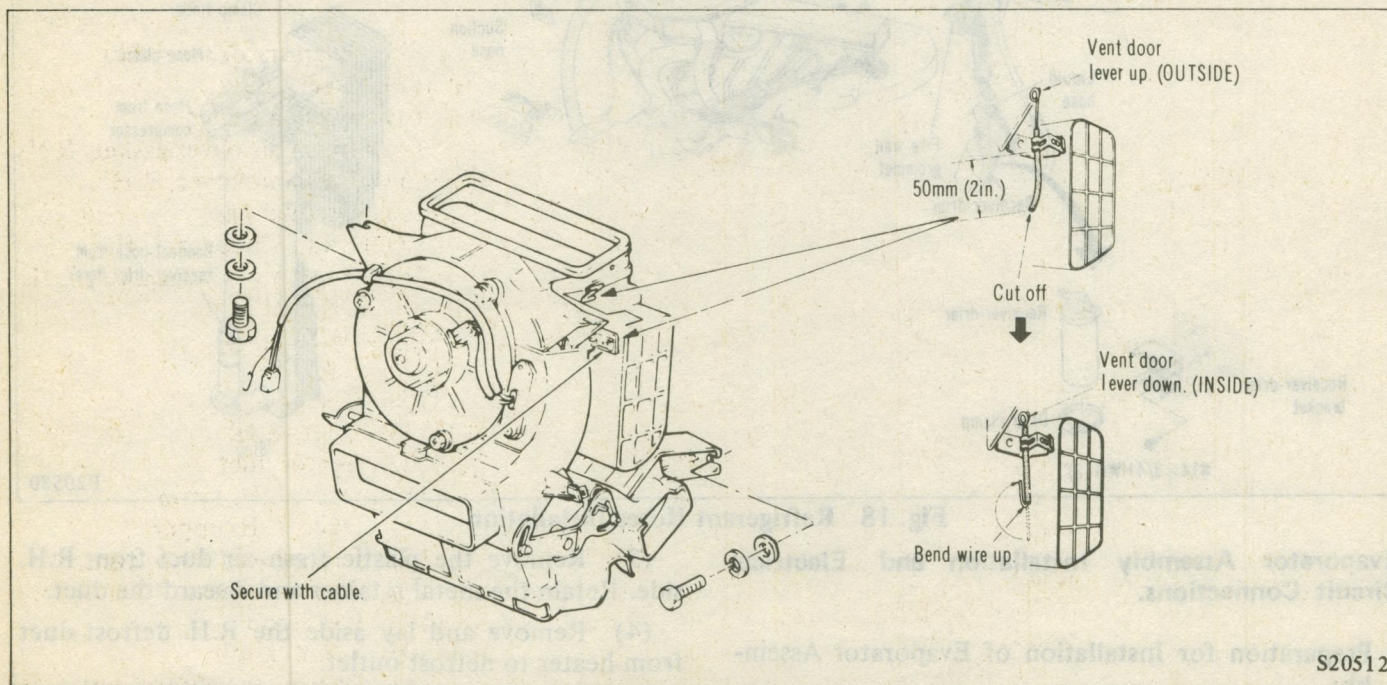

Fig. 21 Securing Heater Fresh Air Inlet Door in Closed Position
(8) Remove INSIDE-OUTSIDE cable from switch assembly and retain hardware. (Fig. 21)